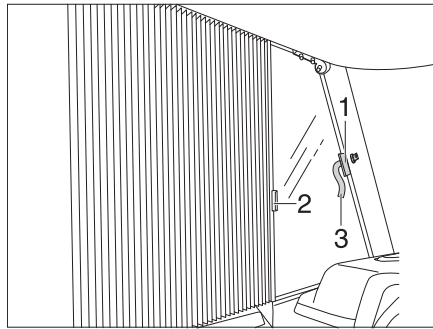

Fig. 12 Securing the Roman shades on driver's/front passenger's windows
- Use the handles (Fig. 12,2) to push the Roman shades for the driver's window and the front passenger's window under the covers and secure with the Velcro loops (Fig. 12,1 and Fig. 12,3). The Roman shade is secured.